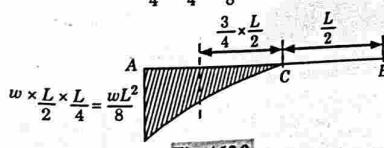

Fig. 4.12.2.
1. The bending moment diagram is a parabola as shown in Fig. 4.12.2 with maximum ordinate as $\frac{wL}{4} \times \frac{L}{4} = \frac{wL^2}{8}$.